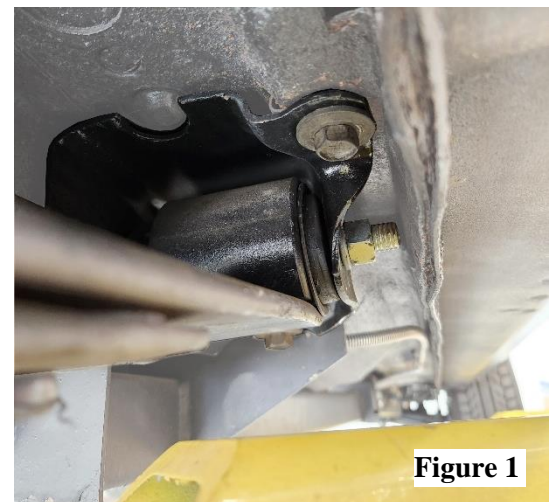

Figure 1
3. Remove the three bolts holding the front leaf spring mounts to the vehicle. **(Figure 1)**